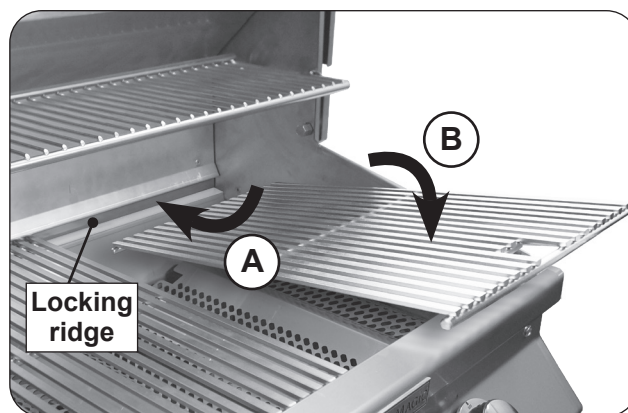

Fig. 26-3 Install cooking grids
1. Carefully place the rear of a cooking grid between the locking ridge of the rear wall (see Fig. 26-3, A). Then, carefully place the front of the cooking grid onto the front grid rest of the grill (see Fig. 26-3, B).